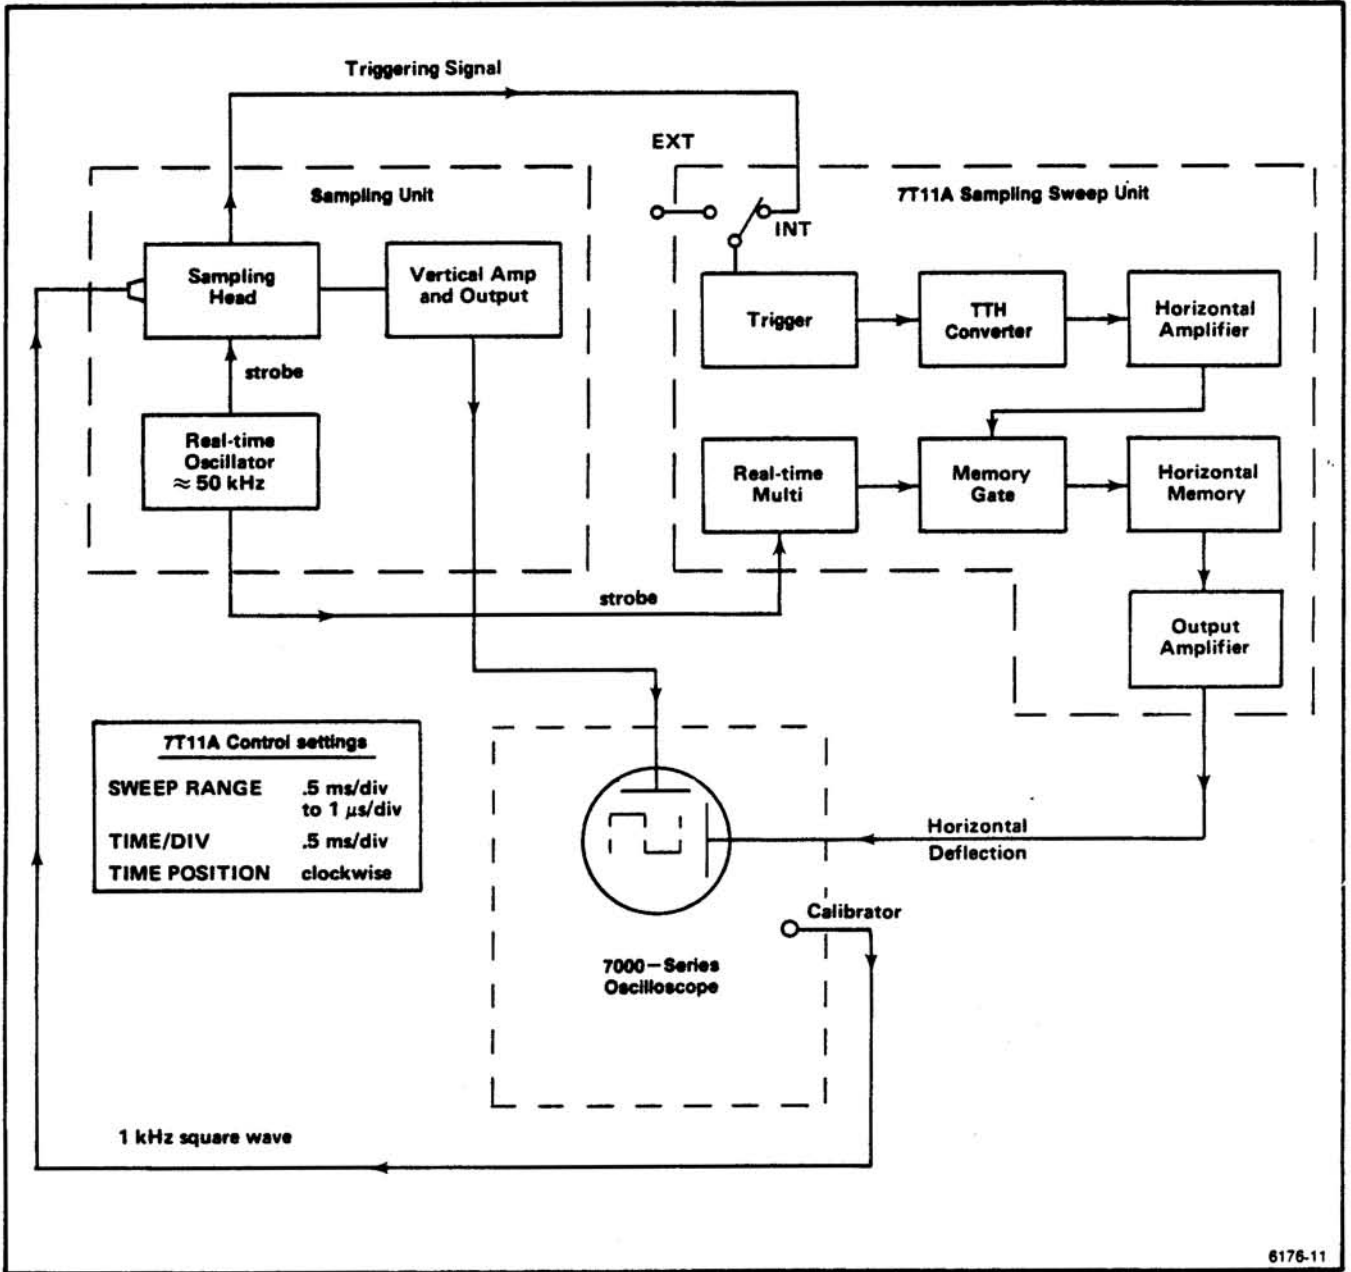
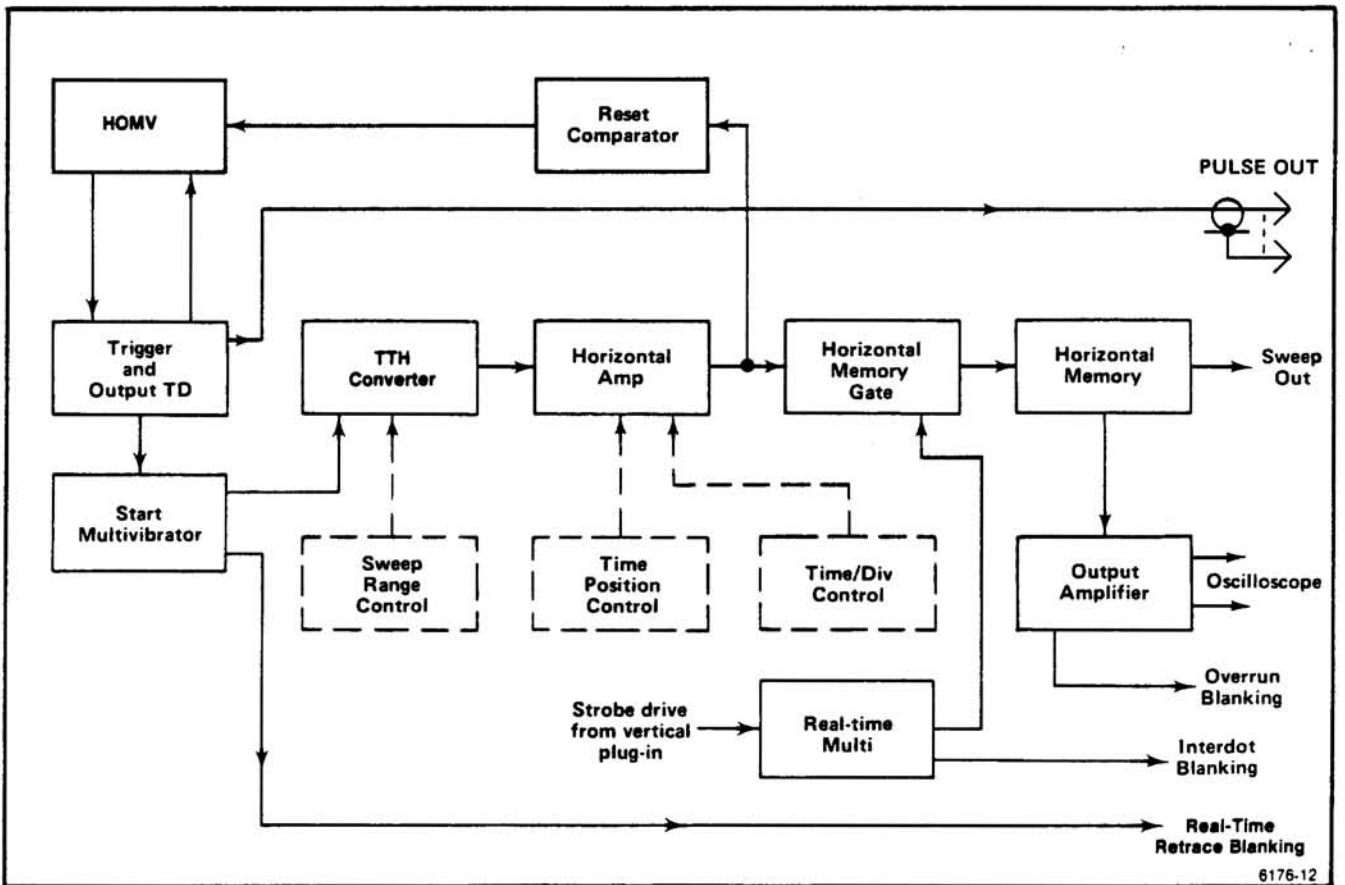
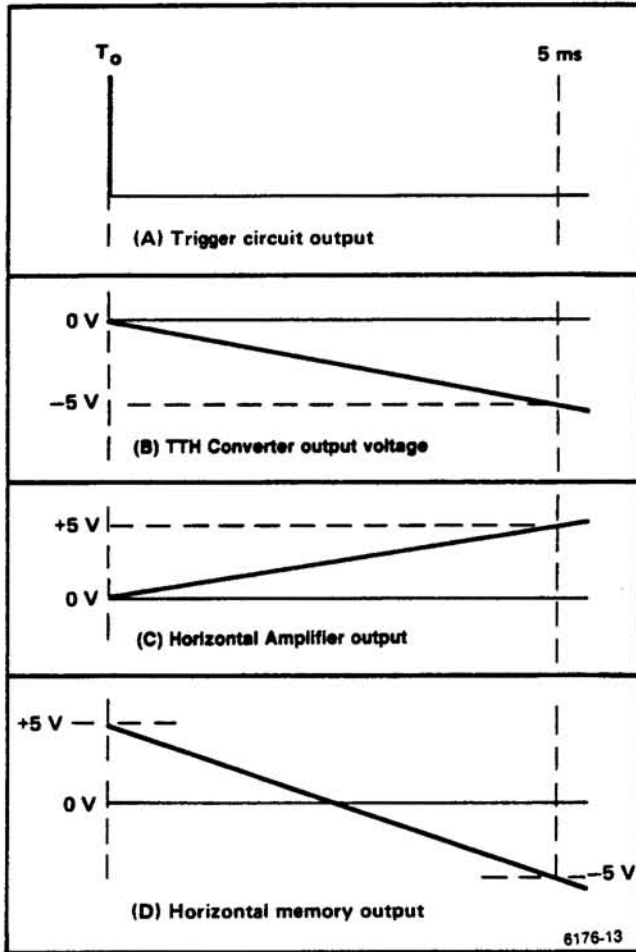
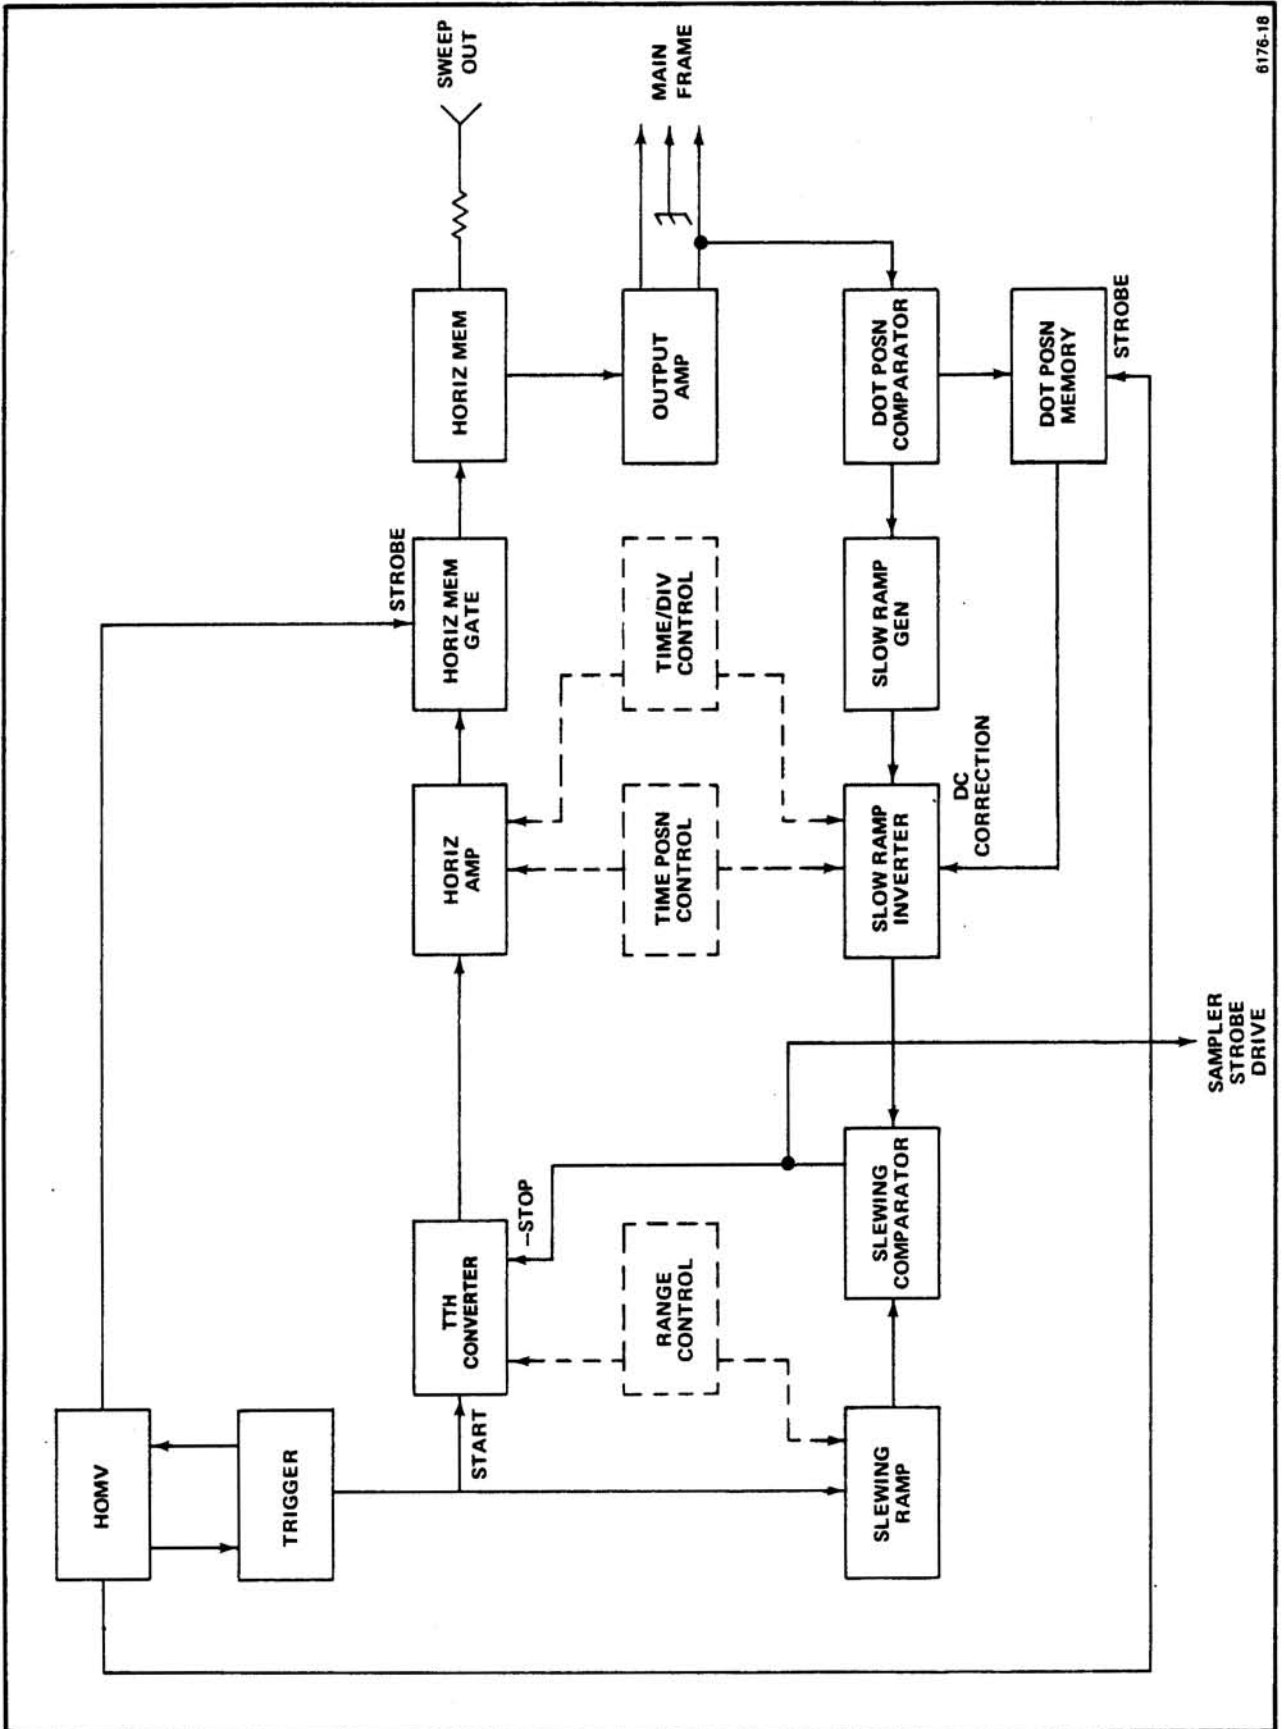

Figure 3-1. Simplified block diagram of a sampling system using the 7T11A as a Real-time Sweep Unit.
Figure 3-2. 7T11A complete block diagram for Real-time sampling.
Figure 3-3. Circuit waveforms at control settings shown in Figure 3-1.
Figure 3-8. Simplified sequential equivalent-time block diagram.
In Figure 3-1, the Trigger, TTH Converter, and Horizontal Amplifier serve the same purpose as the Trigger, Sweep Generator, and Horizontal Amplifier circuits in a conventional horizontal sweep unit. The function of these blocks will be discussed first.
A ramp amplitude of 10 volts is required at the output of the Horizontal Memory to produce 10 divisions of horizontal deflection on the CRT. The 10-volt ramp at the Horizontal Memory output is fed to the Output Amplifier. The Output Amplifier prevents loading of the Horizontal Memory circuit and changes the single-ended output of the Horizontal Memory to the push-pull horizontal drive signal required by 7000 series-oscilloscopes. The 10-volt output of the Output Amplifier is delivered to a Horizontal Interface board in the oscilloscope, and then to the CRT horizontal deflection plates. If either output of the Output Amplifier exceeds +5 volts the Overrun blanking circuit (now shown in Figure 3-2) is enabled, preventing display of the overrun portion of the sweep.
The 10-volt change at the Horizontal Memory output must occur in 5 ms in order for timing to be correct at the TIME/DIV setting shown in Figure 3-1. Figure 3-3 shows that the TTH Converter output voltage changes only 5 volts in 5 ms at the selected position of the SWEEP RANGE control. With the SWEEP RANGE and TIME/DIV settings given in Figure 3-1, the Horizontal Amplifier has a gain of 1. The fixed X2 gain of the Horizontal Memory provides the required rate of change of voltage. Since the TTH ramp continues to run negative after 5 ms from ramp start as shown in Figure 3-3, the Horizontal Amplifier output continues to run positive. This positive run is stopped by a reset circuit (not shown on Figure 3-1) when the Horizontal Amplifier Output voltage reaches approximately 5.2 volts.
Figure 3-3 shows that the rate of change of the ramp output of the Horizontal Memory is twice that of the ramp output of the Horizontal Amplifier. In addition to providing X2 gain, the Horizontal Memory inverts the applied signal and shifts its starting level from 0 volts to +5 volts. The output from the memory is not the perfect linear ramp it appears to be in Figure 3-3D. The voltage change from +5 volts to -5 volts is accomplished in 250 steps of 40 millivolts each.
plied to the Memory Gate. The action of the Memory Gate changes the linear ramp at the Horizontal Amplifier output to the staircase ramp appearing at the output of the memory. A  $3 \mu\text{s}$  duration gating pulse is applied from the Real Time Multivibrator to the Memory Gate at intervals of  $20 \mu\text{s}$ . The  $50 \text{ kHz}$  Real Time Oscillator, shown in Figure 3-1, controls the period of the Real Time Multivibrator and therefore determines the  $20 \mu\text{s}$  interval between gating pulses. The CRT is blanked during the  $3 \mu\text{s}$  gating pulse.
The basic block diagram for Real-Time (Figure 3-1) shows a system very similar to a standard real-time oscilloscope. The arrival of a trigger starts the timing ramp, or Time to Height (TTH) Converter. The 50 kHz Real-Time Oscillator supplies strobe pulse to the Real-Time Multivibrator every 20  $\mu\text{s}$ . When a strobe occurs, the Real-Time Multivibrator fires, causing the Memory Gate to conduct for about 3  $\mu\text{s}$ . The CRT is blanked by the Interdot blanking circuit during this 3  $\mu\text{s}$  period. The memory tracks along with the amplified TTH ramp until the gate quits conducting. The CRT is then unblanked and the memory voltage remains constant until the next memory gating pulse arrives approximately 17  $\mu\text{s}$  later. The width of the memory gating pulse sets the lead time of the instrument. During Real-Time sampling this lead time is about 3  $\mu\text{s}$ . For each triggering event, one sweep across the screen is produced. The display created during each sweep consists of a series of dots spaced at 20  $\mu\text{s}$  intervals. At the faster real-time sweep rates the number of dots displayed per sweep decreases.
Figure 3-2 shows a number of circuits and controls that did not appear in the basic block diagram of Figure 3-1. The additional circuit blocks are: Start Multivibrator, Reset Comparator, and HOMV (hold-off multivibrator). Operating controls shown on this block diagram are: SWEEP RANGE, TIME/DIV, and TIME POSITION.
The block labeled Trigger in Figure 3-1 is labeled Trigger and Output TD in Figure 3-2. This block represents all circuits through which the triggering signal passes before arriving at the Trigger Output tunnel diode. The time at which the trigger signal causes the Trigger Output TD to fire is referred to as trigger recognition or time  $t_0$ . The Trigger circuit switches the Start Multivibrator circuit, which in turn
**TIME/DIV Control.** Figure 3-2 shows that the TIME/DIV control operates on the Horizontal Amplifier block. Changing the setting of the TIME/DIV control changes the gain of the Horizontal Amplifier and thereby changes display magnification. Display magnification varies from X1 to X500 depending upon the location of the TIME/DIV setting within the window provided on the front panel control. Refer to Figure 2-6 in the Operating Instructions section of this manual.
**TIME POSITION Control.** Figure 3-2 shows that the TIME POSITION control also operates on the Horizontal Amplifier block. Essentially the TIME POSITION control delays the start of the magnified linear sweep delivered to the Horizontal Memory Gate. See Figure 3-6.
Figure 3-8 shows a simplified block diagram of circuits required for sequential equivalent-time operation of the 7T11A. Comparison of Figure 3-8 with the real-time block diagram shown in Figure 3-2 shows that the Reset Comparator and Real-Time Multivibrator are not used during equivalent-time operation.
Additional circuits (shown in Figure 3-8), required during sequential operation are: Slewing Ramp, Slewing Comparator, Slow Ramp Generator, Slow Ramp Inverter, Dot Position Comparator, and Dot Position Memory.
Switching of HOMV section A causes the Horizontal Memory Gate to be turned on. The  $-2.5\ \text{volt}$  level of the TTH ramp appears at the Horizontal Amplifier output as a  $+2.5\ \text{volt}$  level, and at the Horizontal Memory output as a  $0\ \text{volt}$  output level. These voltage relationships are illustrated in Figure 3-3.
Comparison of Figure 3-14 with the Sequential Block diagram of Figure 3-8 shows that a number of blocks have been added. The additional blocks shown in Figure 3-14 are: Ratemeter, Lead Time Offset, Ratemeter Correction, and Start Correction Memory. Another difference between the Sequential and the Random block diagrams is that the Random block diagram shows a (+) stop input to the TTH Converter, and an OR logic symbol is shown at the TTH Converter input.